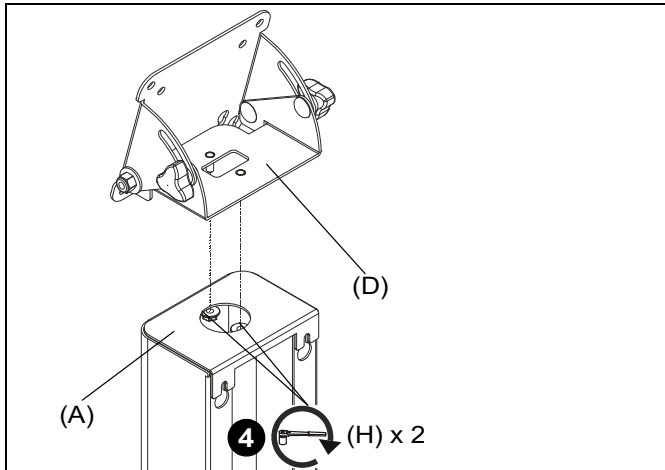

Figure 1
1. Use two #10-24 lock nuts (H) to install VESA adapter (D) to column (A). (See Figure 1)